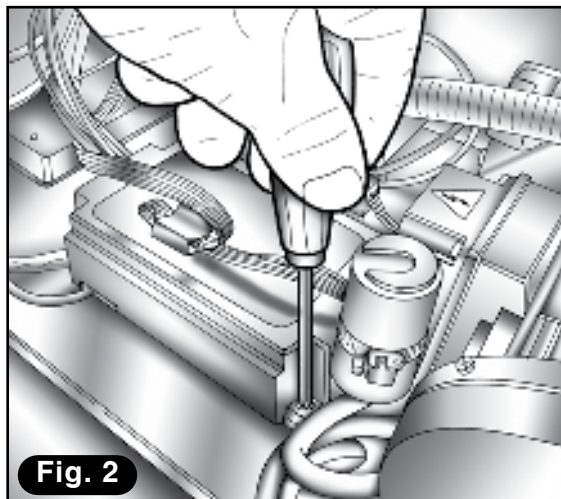

Fig. 2
- 2) Unscrew the protective lid from the power board (Fig. 2).